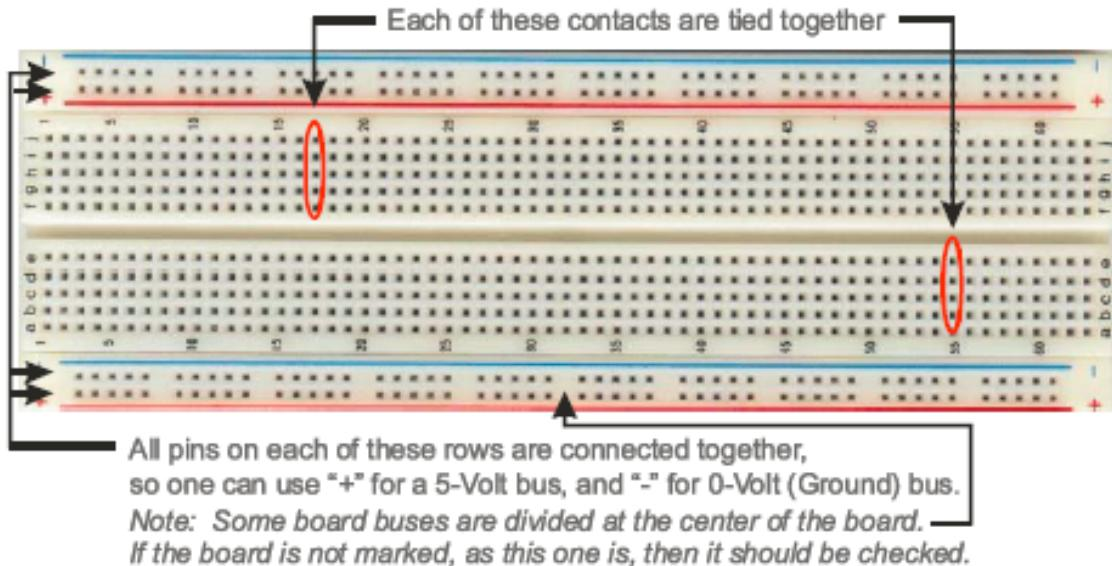

Figure 5: Prototyping board
- Figure 5 shows the basic configuration of a prototyping board (breadboard).